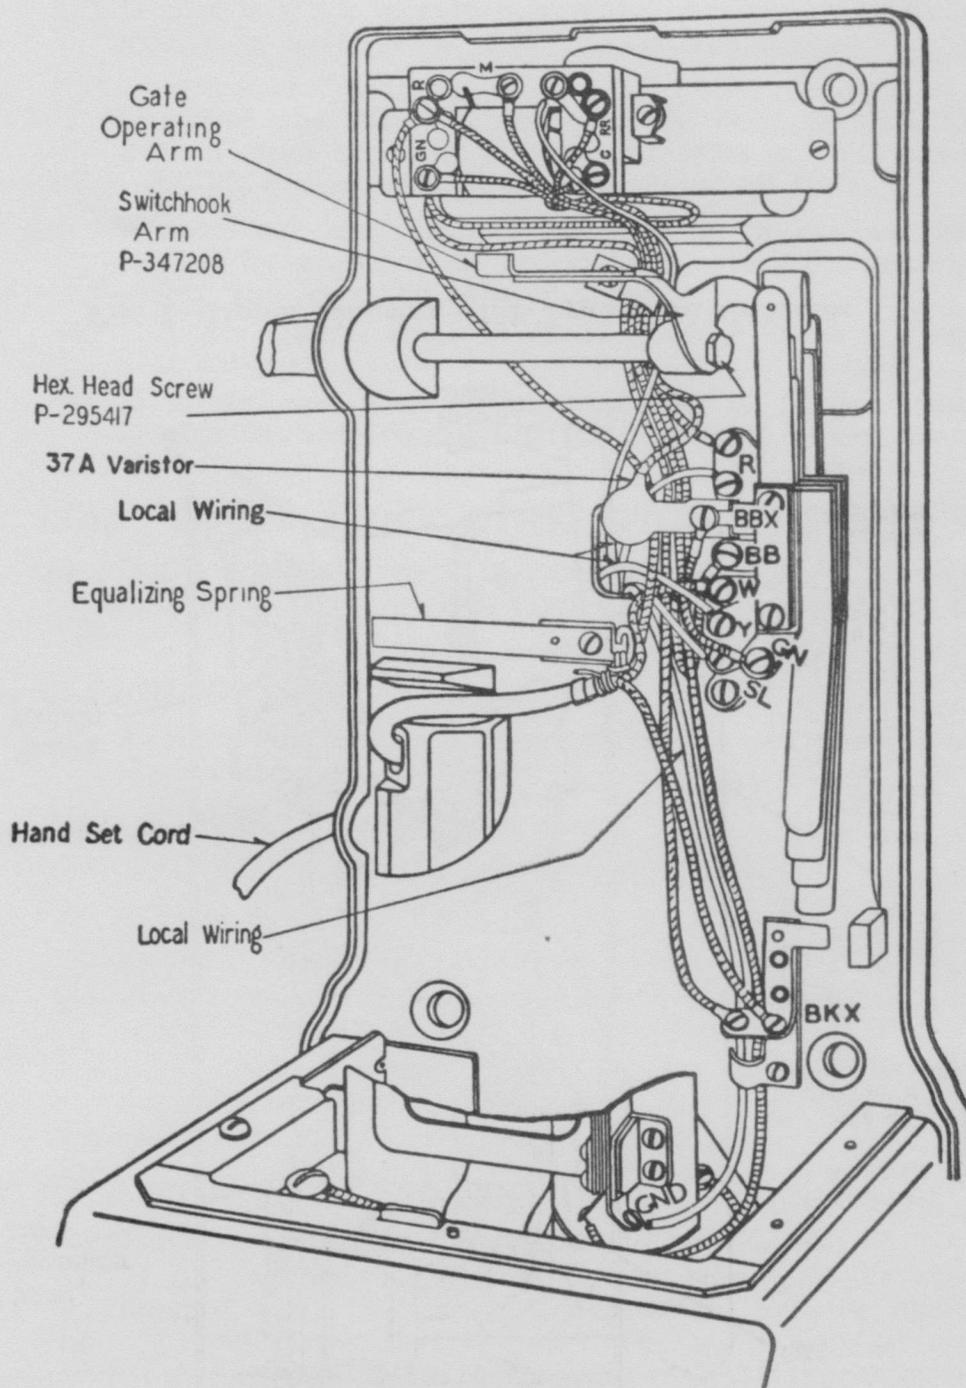

Fig. 2—Backplate—191-Type Coin Collector
If the gate operating arm has become badly distorted so that it cannot be adjusted to meet requirements, replace the switchhook arm assembly (P-347208). (See Fig. 2.) Check operation of switchhook contact springs in accordance with Paragraph 2.01 of Section C42.129. If switchhook does not come to a positive stop, upward or downward, the gate operating arm, or contact spring operating end of switchhook arm, or both, will require adjustment in accordance with Part 7 of this section.
- (a) If the switchhook does not come to a positive stop upward when the receiver is removed, remove upper housing and check that the gate operating arm on the switchhook does not touch induction coil. Arrangement of conductors should be such as not to interfere with operation of gate operating arm, switchhook shaft, or switchhook arm as shown on Fig. 2. Adjust either or both arms as required.